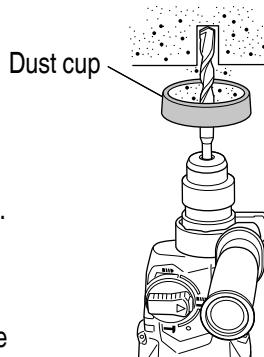
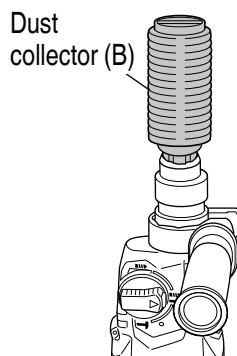

Fig. 9
Fig. 10
(Optional accessories) (**Fig. 9, Fig. 10**)
Use the dust cup by attaching to the drill bit as shown in **Fig. 9**.
- Installing dust collector (B)
When using dust collector (B), insert dust collector (B) from the tip of the bit by aligning it to the groove on the grip. (**Fig. 10**).